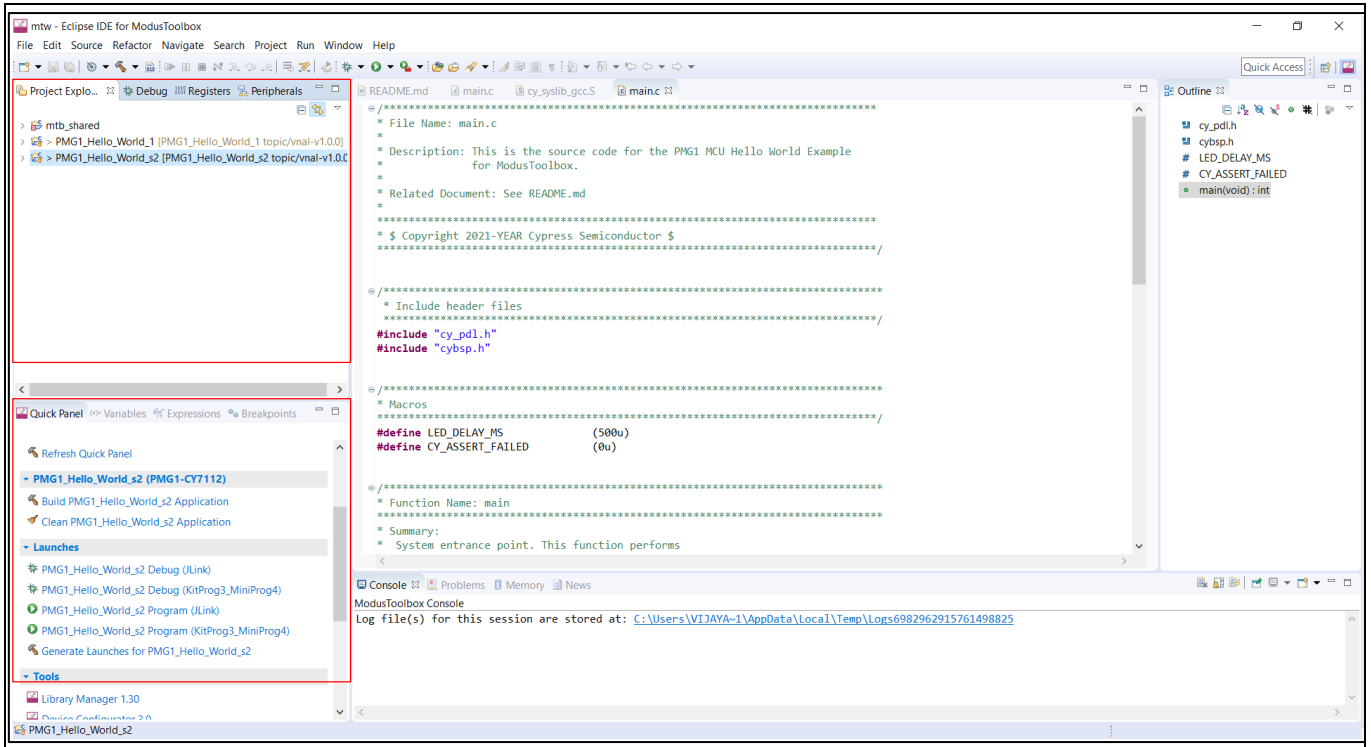

Figure 40 Eclipse IDE for ModusToolbox™ software
5. In the project explorer, select the correct project as the current active project as shown in **Figure 40**.